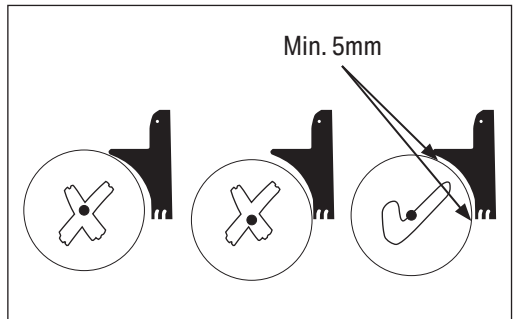
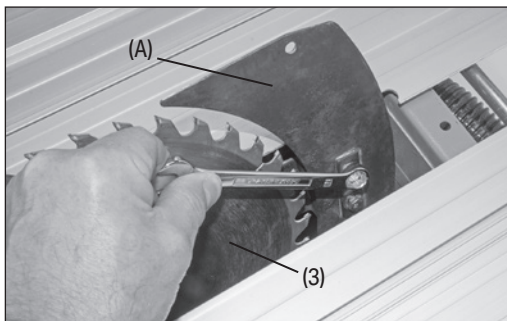

Fig.5
Fig.6
## 6.3 Riving Knife Adjustment (Fig.5 – Fig.6)
- The blade (3) and riving knife (A) are factory fitted.
- Before using the table ensure that the riving knife is set as shown in Fig.5.
- If adjustment is required, access the blade and knife by removing the three screws that hold the blade panel on the tabletop as shown in Fig.6.